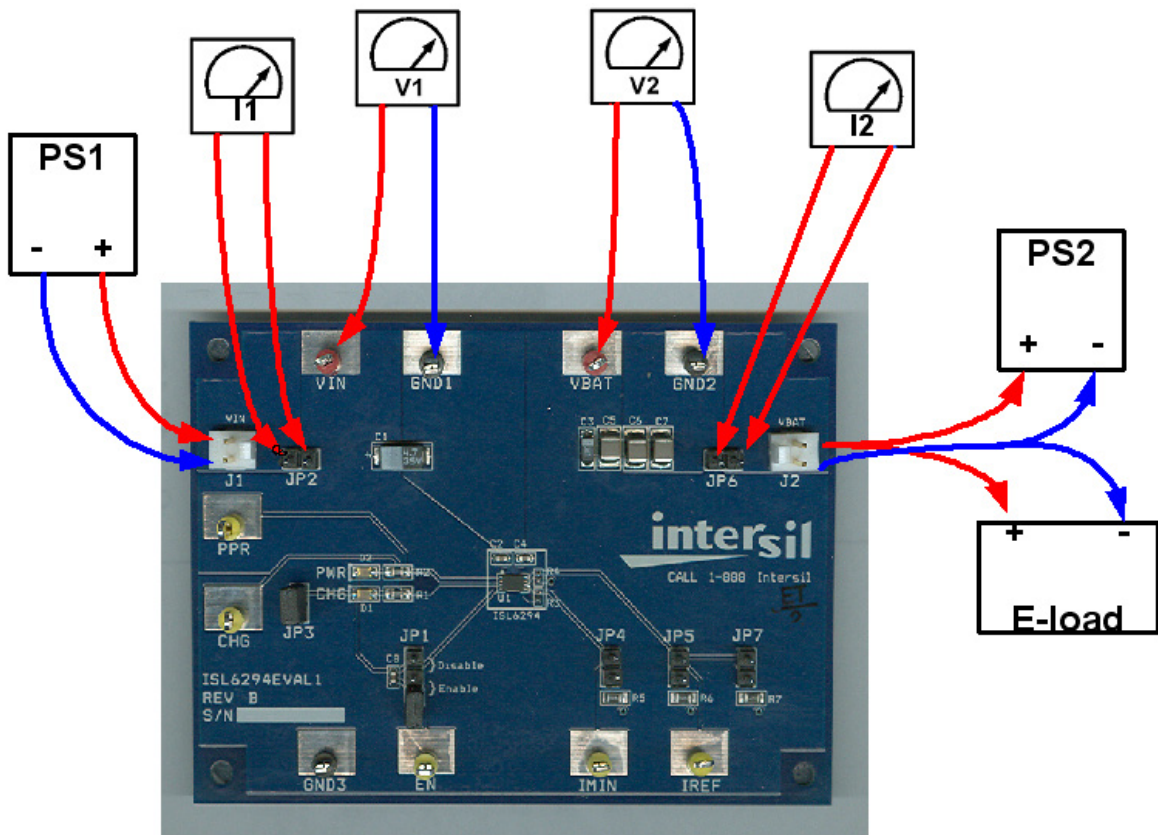

FIGURE 1. CONNECTION OF INSTRUMENTS
**Quick Setup Guide (Refer to Figure 1)**